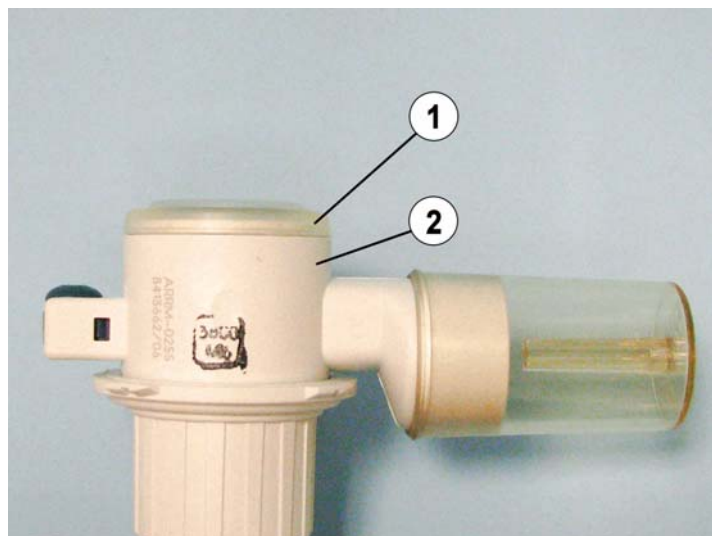

Fig. 40 Expiratory valve; diaphragm fitting location
1. Clip the diaphragm (Fig. 40/1) onto the rim of the expiratory valve (Fig. 40/2) so that it engages on the expiratory valve rim all the way round.